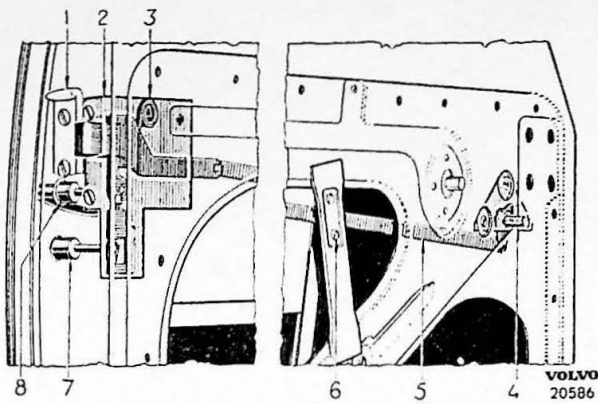

Fig. 21.
5. Loosen the screws holding the lock (2, Fig. 21), the guides (6) for the link (5) and the remote control (4). Lift out the door lock in a downwards direction.